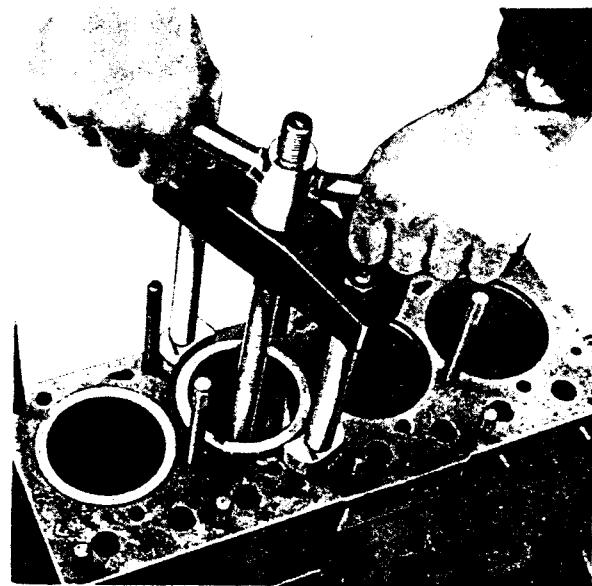

FIG. 32
4. Insert claw of service tool FT.1, Fig. 32, with heavier side uppermost, and withdraw each sleeve.